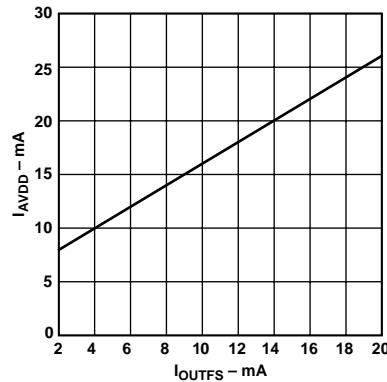

Figure 19. I_{AVDD} vs. I_{OUTFS}
The power dissipation, P_D , of the AD9708 is dependent on several factors, including: (1) AVDD and DVDD, the power supply voltages; (2) I_{OUTFS} , the full-scale current output; (3) f_{CLOCK} , the update rate; (4) and the reconstructed digital input waveform. The power dissipation is directly proportional to the analog supply current, I_{AVDD} , and the digital supply current, I_{DVDD} . I_{AVDD} is directly proportional to I_{OUTFS} , as shown in Figure 19, and is insensitive to f_{CLOCK} .